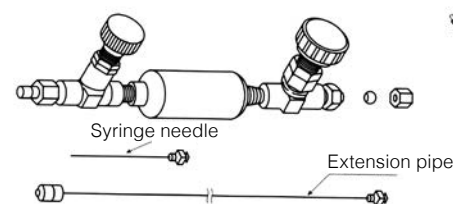

Figure 21: Sampling bottle and hose
- (4) Close valve A and the valve on the canister. Remove the hose. Weigh the sampling bottle, and then attach a syringe needle to valve B (Figure 21).